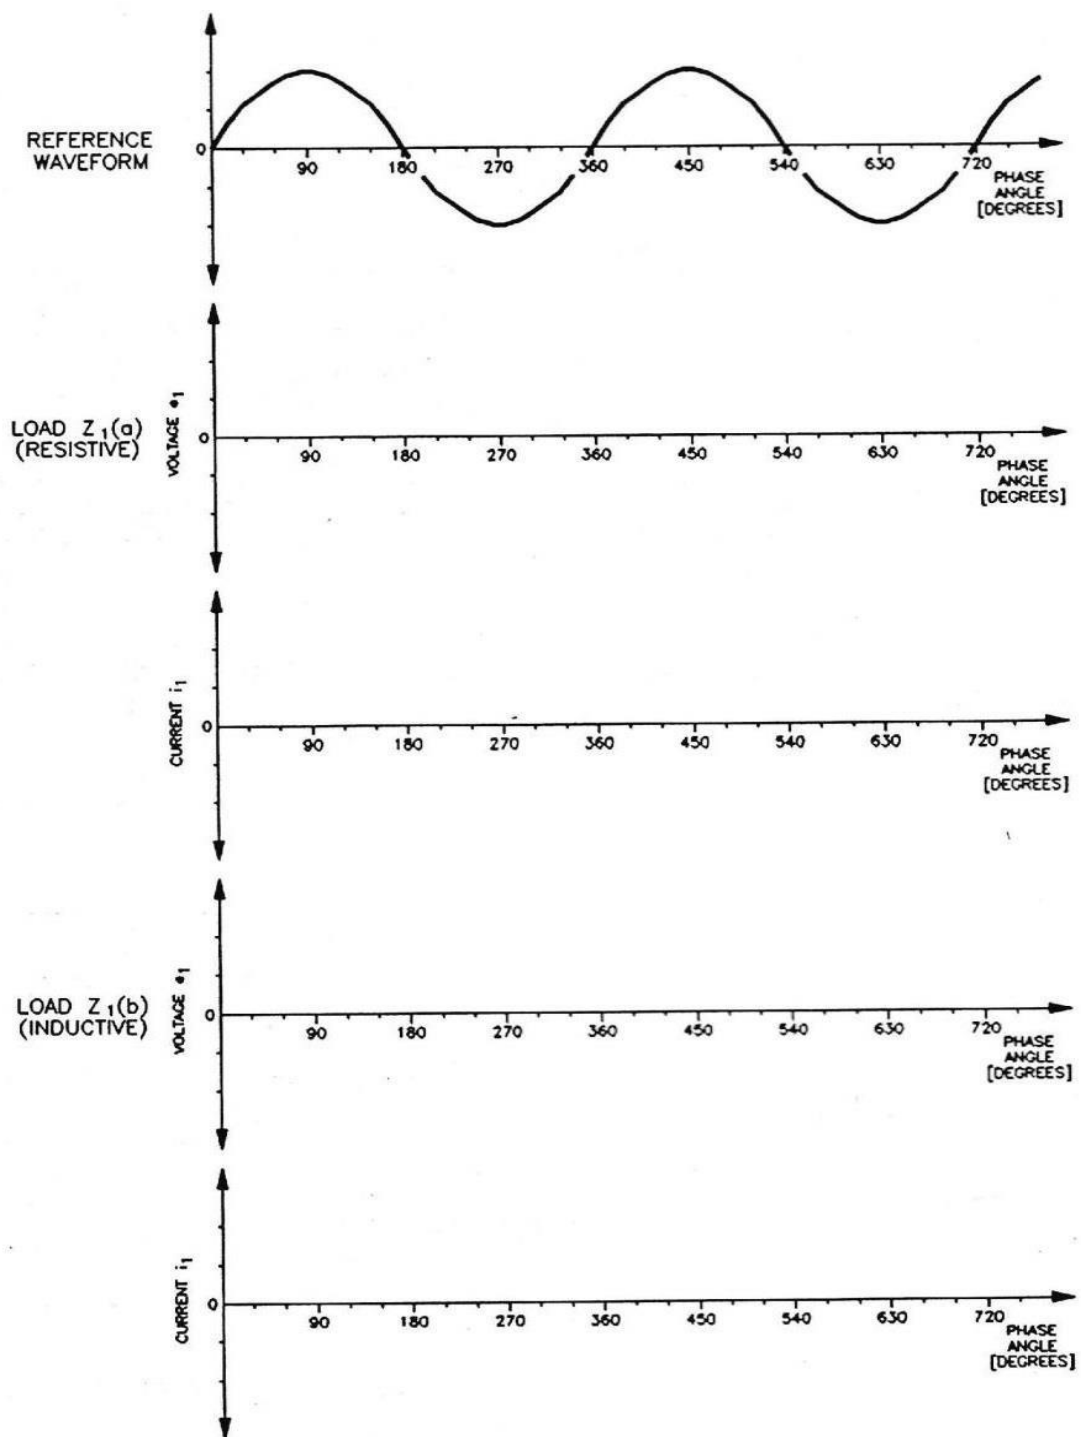

Figure 2-7. Voltage and current waveforms for three-phase, six-pulse rectifier.
Sketch the voltage and current waveforms in Figure 2-7. Record the ripple frequency.
- ☐ 14. With the power off, change the load in the circuit to the inductive load $Z_1(b)$. Repeat the procedure steps necessary to complete Table 2-2 and Figure 2-7.